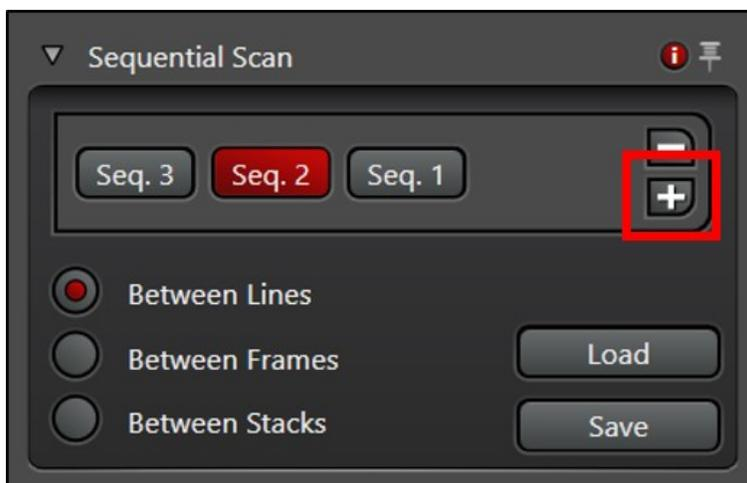

Figure 9: Add and remove sequences. Control when sequences are changed during acquisition.
- In the Sequence menu press the '+' to add the next sequence to your acquisition. See Figure: 9